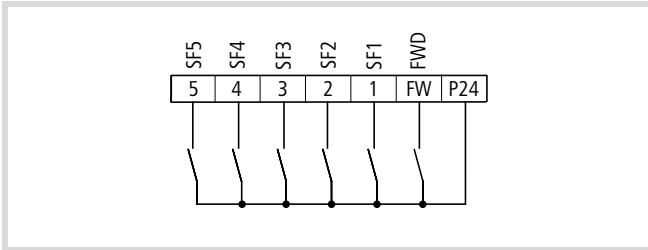

Figure 56: Digital inputs 1 to 5 configured as SF1 to SF5 (bitwise fixed frequency selection).
- ▶ To select a fixed frequency stage, activate the digital input as listed in figure 56.
The entered value is saved in the parameter which you have selected with the digital input. If you have wired the inputs as shown in figure 56, the value is saved under PNU A021 when digital input 1 is activated.